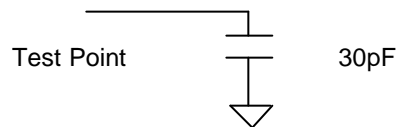

Figure 3: Test circuit of an I/O pin.
1. The AC specifications are tested with a 30 pF load as indicated in Figure 3: